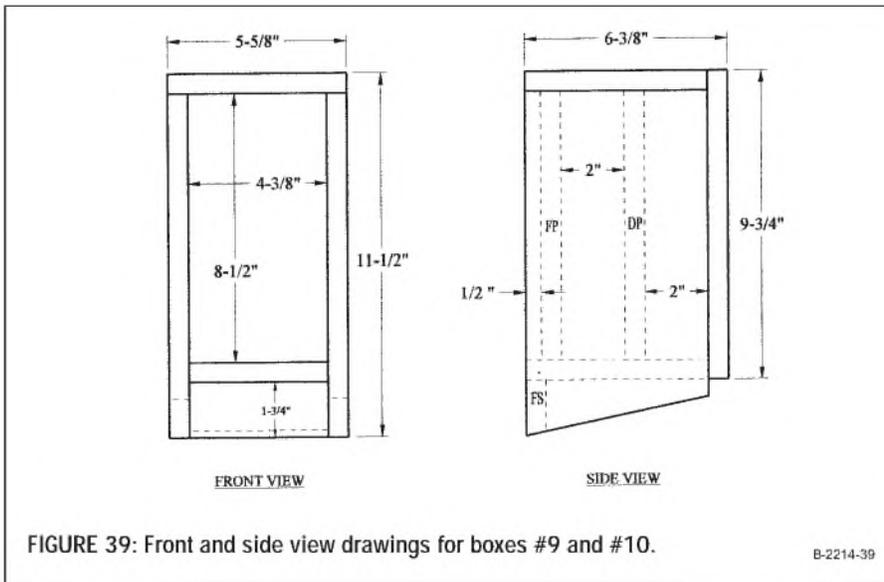

FIGURE 39: Front and side view drawings for boxes #9 and #10.
- Front and side view drawings: *Fig. 39*